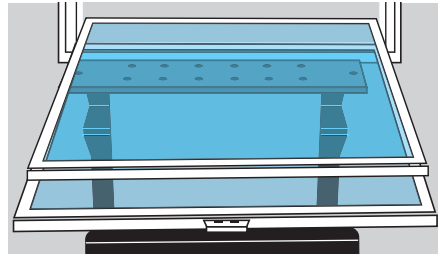

Fig 48. Tilt and rest inner sash
3. Slide top sash down to 75mm above the bottom sash and repeat the previous instructions this time resting it on the bottom sash (fig 48)